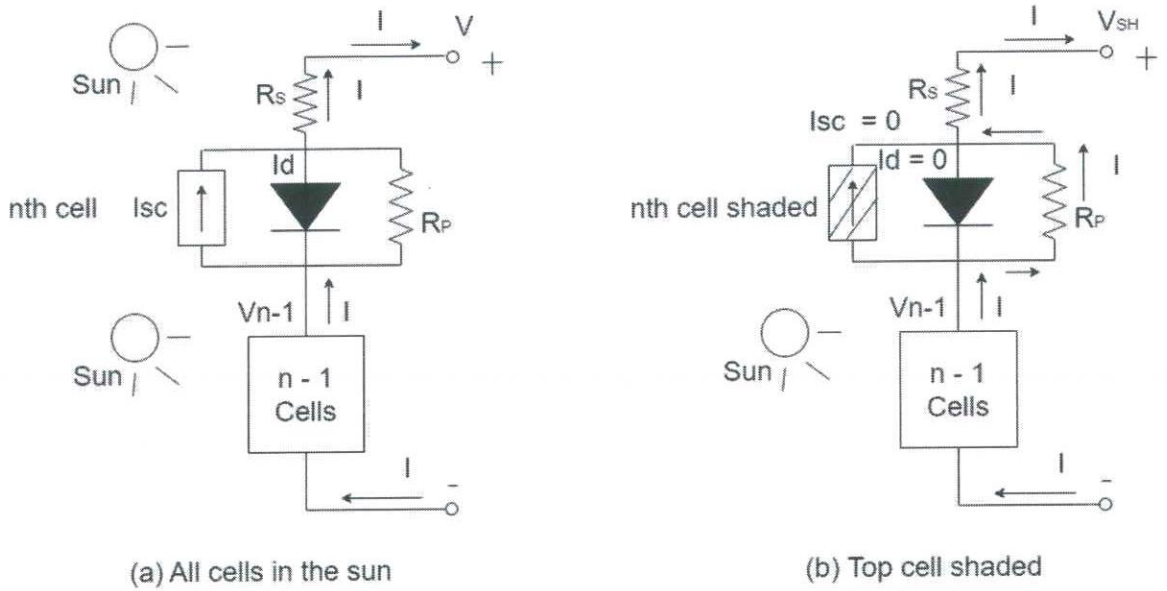

Figure Q1: PV array
- b) Voltage drop due to the shading of photovoltaic (PV) cells is a major problem in PV systems.
- i) By using the diagram shown in Figure Q1, derive an equation for the voltage drop in a PV array due to the shading of a single PV cell.
- Q2. A photovoltaic (PV) system with a rated capacity of 500 kW needs to be designed. This PV system will be connected to a three-phase ac grid with a line-line rms voltage of 460 V and frequency of 60 Hz. Answer the following. You may use the Table Q2a equations for your calculations, where the symbols have the usual meanings. Specifications of the PV module to be used are given in Table Q2b.